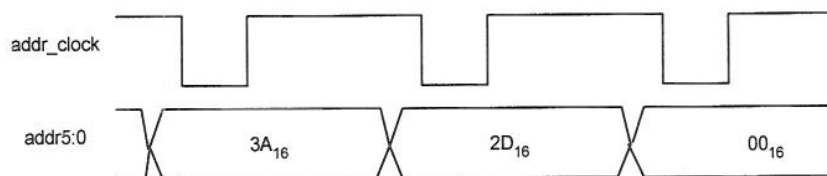

Figure 2.2
c) Given that the timing diagram for the input signals addr_clock and $\text{addr}[5:0]$ are as shown in *Figure 2.2*, draw the timing diagram for the signals at X and Y. Label your timing diagram with the following four possible signal states: driven low (DL), driven high (DH), charged low (CL) and charged high (CH).